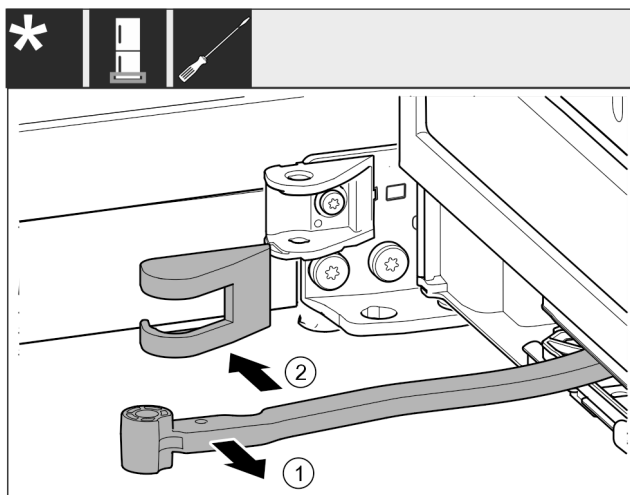

Fig. 17
- Turn the hinge in the direction of the door. Fig. 17 (1)
► Remove the bearing bracket cover. Fig. 17 (2)